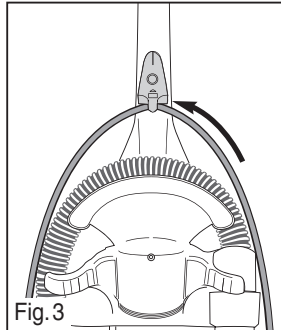

Fig. 3
- Push cord into cord clip (Fig. 3).